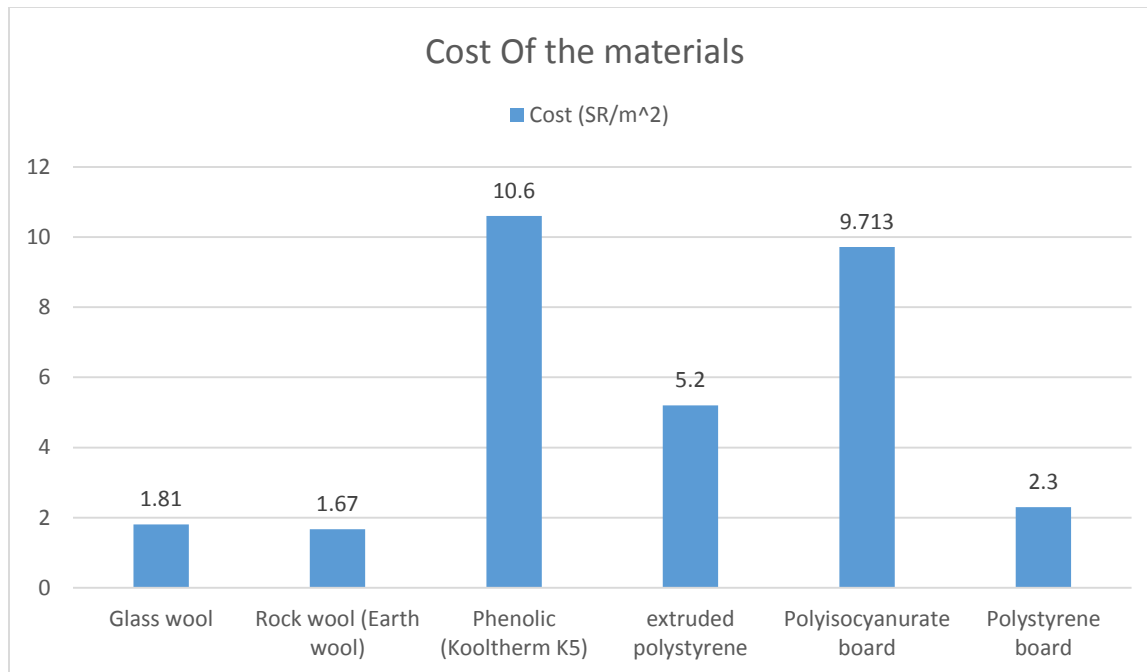
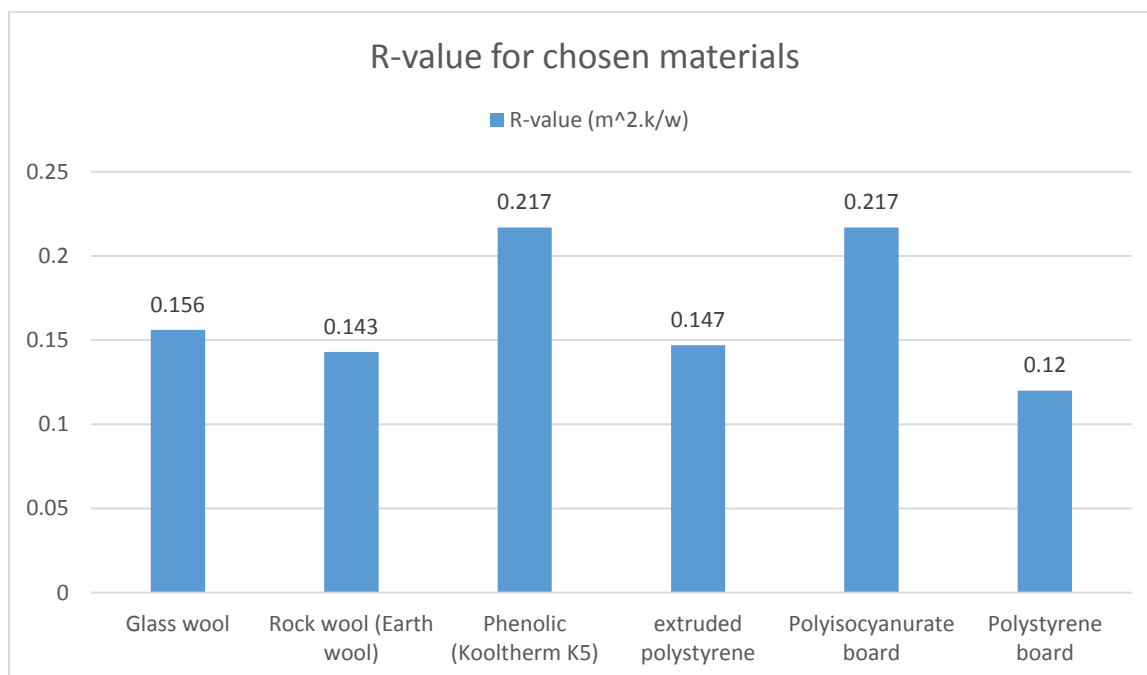
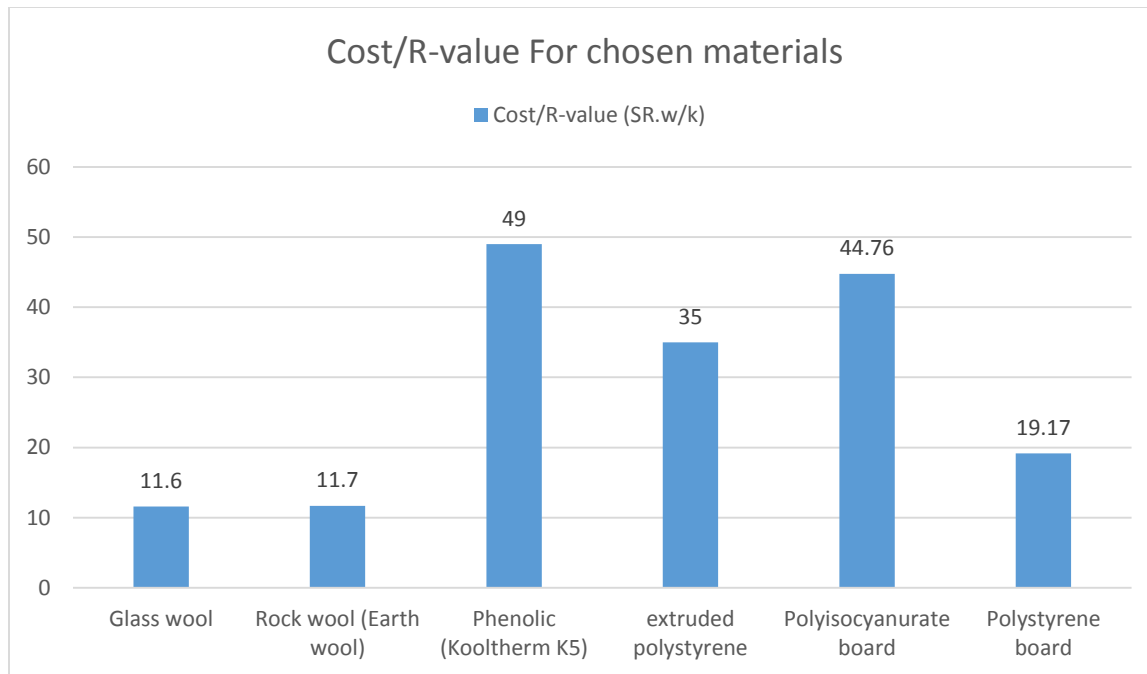

Figure 2 Cost for chosen materials
Figure 3 R-value for chosen materials
Figure 4 Cost/R-value For chosen materials
In order to find the best insulation material we need to compare the result between the materials, in **figure 1** we can see that **Polystyrene board** has the highest thermal conductivity (K) and both the **Polyisocyanurate board** and **Phenolic** has the lowest thermal conductivity (K). **Figure 2** show the cost per meter square and we can see that **Phenolic** is the most expensive one and the **Rockwool (Earth wool)** is the cheapest. In figure after using the equation we found the R-Value for every materials, we can see from **figure 3** that the **Polyisocyanurate board and Phenolic board** has the highest R-value, that's mean it's the best insulation materials regardless of the price, and the lowest R-value was for the **polystyrene**, which means it is the worst comparing with the other materials.
To consider the effect of the price we found the ratio between the cost and R-value, which can be seen in **figure 4**, **Rock wool (earth wool) and Glass wool** have the best result which is equal to 11.6 and 11.7 respectfully, the lowest result was for the **Phenolic board and Polyisocyanurate board** with result equal to 49 and 44.76 respectfully.
To conclude the result, the **Phenolic** board and **Polyisocyanurate** board is the best insulation material and **polystyrene** was the worst if we consider R-value only (figure 3), but if we consider the cost the **Phenolic** board and **Polyisocyanurate** board will be the worst (figure4), that's mean both of the material is so expensive with respect to its thermal conductivity (K).